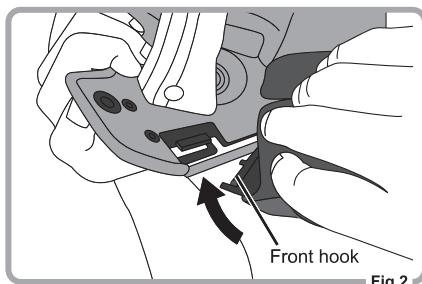

Fig.2
2. Push in the front hook of Cheek Pad to the mount on the helmet. (Fig.2)